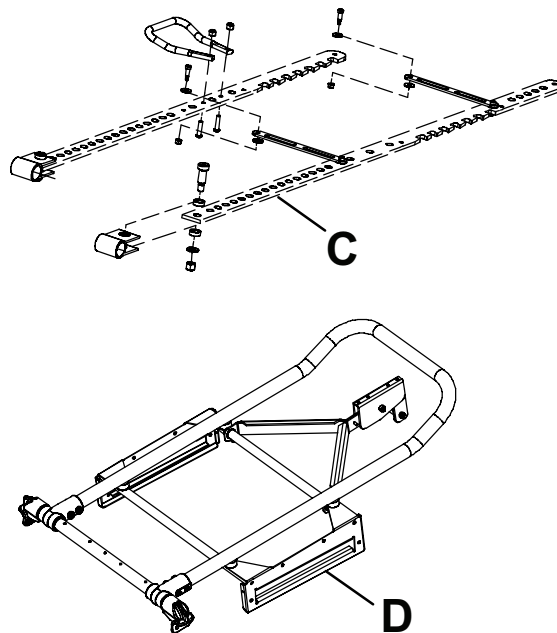

Figure 26 – Height adjustment racks and side plates
4. Apply **Tri-Flow™** to the right and left height adjustment racks (C) (Figure 26). Provide an even application.
5. Apply **Tri-Flow™** to the right and left slide plates (D) (Figure 26). Provide an even application.